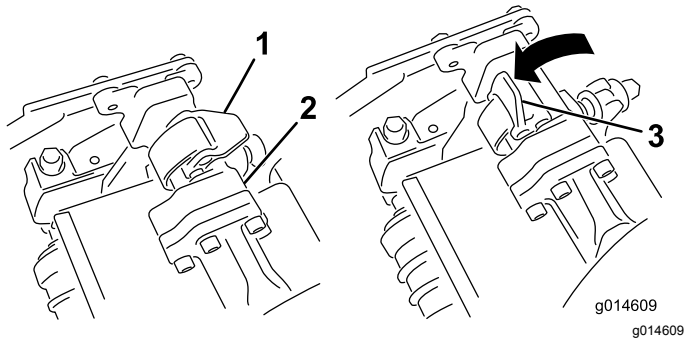
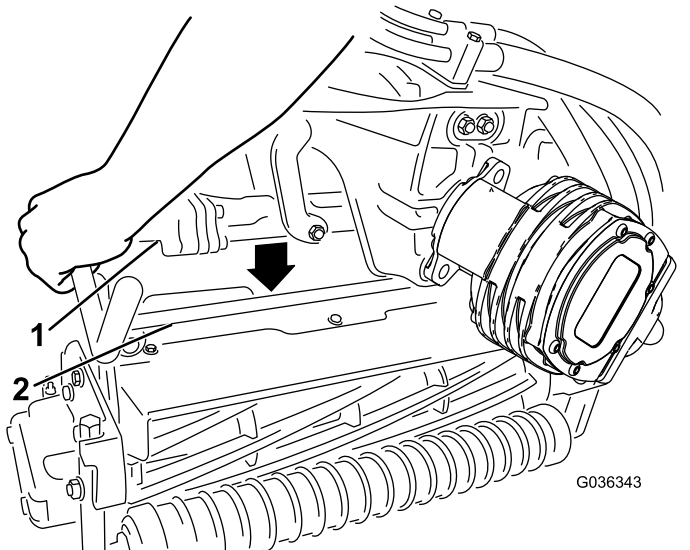

Figure 53
Figure 54
- 4. With the latches on the suspension-arm bar pointing up (i.e., open) (Figure 53), push the suspension arm down so that the bar fits over the bar across the top of the cutting unit (Figure 54).
- 5. Close the latches down and around the cutting-unit bar and lock them in place (Figure 53).
5. Open the latches on the suspension-arm bar of the cutting unit you are removing (Figure 53).